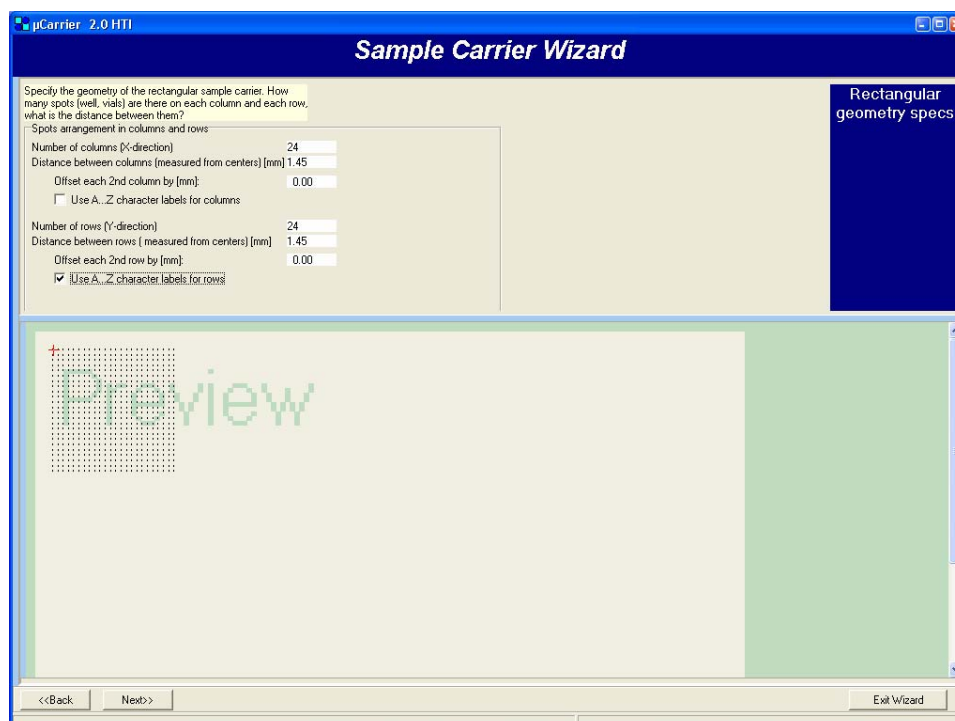

FIGURE 2-25 Sample Carrier Wizard – Sample Carrier Dimensions
- f) Now enter the number of spots in X and Y direction (e.g. 24 by 24 in our example) and the distance (e.g. 1.45 mm) between the rows and the columns. The wizard automatically presents a preview of the target (FIGURE 2-25).